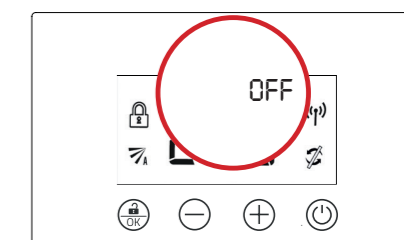

Fig.5
2.6. Press the key to confirm and display Zone 4 ON (fig. 5).